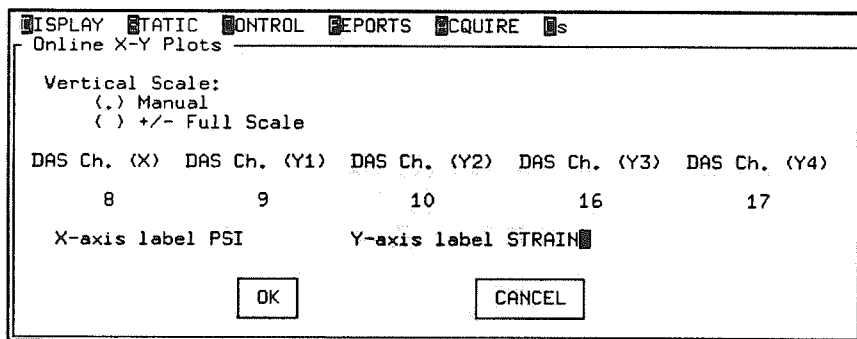

Figure 12-9 Dialog Box used to Set Up an On-Line X-Y Plot
Step 4) Press RETURN. The dialog box shown in Figure 12-9 appears. This dialog box is used to specify which channels are to be plotted, how the vertical axis is to be scaled, and what labels are to be given to the x and y axes. Depending on your configuration, the labels may be automatically filled in as you tab the label fields. The labels used would be the X and first Y channel's units entry from the DAS Setup screen.